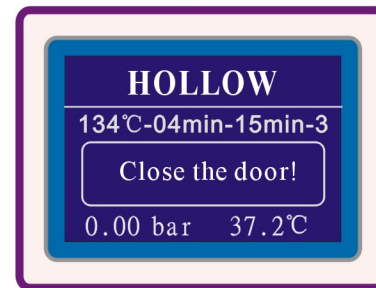

Fig.6.1-5
6.1.6 when the door is closed,you turn on power,LCD show “open the door!” . (Fig.6.1-4).Now,you open the door,then you close the door,it is ok.when the door is opened,you turn on power,LCD show “close the door!” .(Fig.6.1-5). Now,you close the door,it is ok.